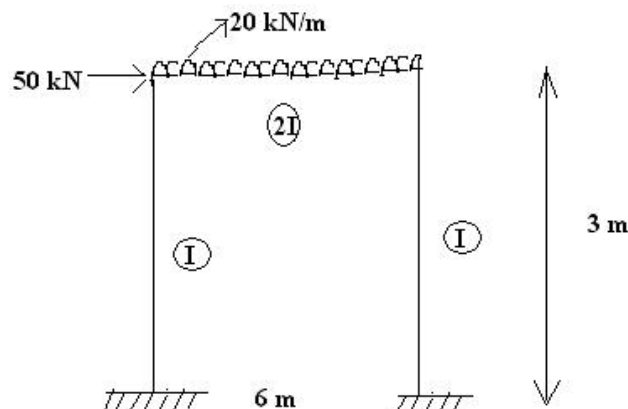

Fig.2
5. Using Kani's method, analyse the portal frame shown in Fig.2